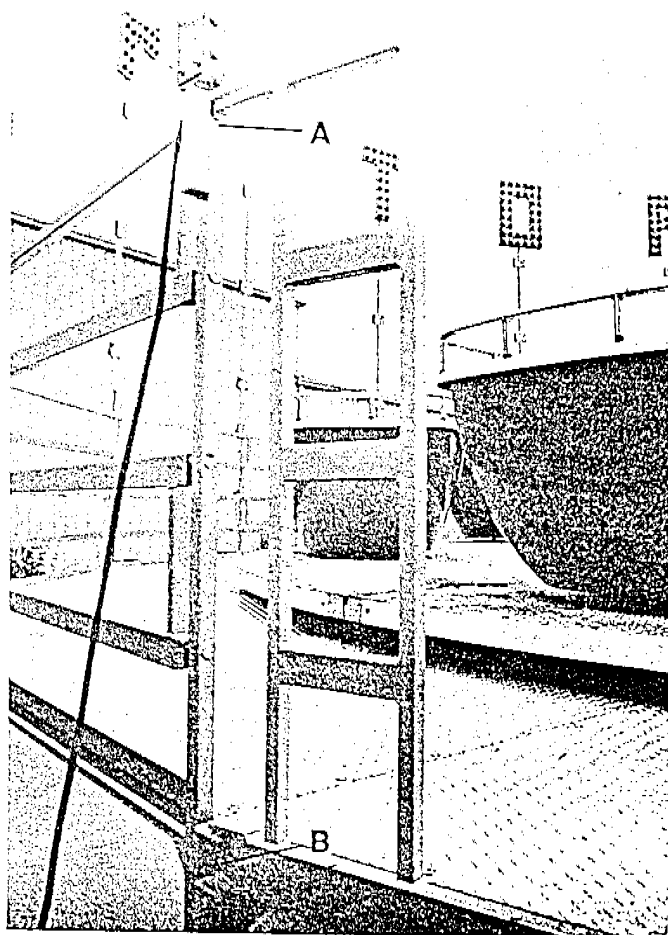

Fig. 19
(1) Slide the pins at the top of the step jack support frame into the inside sockets at the top of the vertical bars (a). (Fig. 19)
(2) At platform floor level, two ears extend out from each vertical bar (b). Hook the lower pins on the step jack support frame in the ears on the bar. (Refer to Fig. 19)